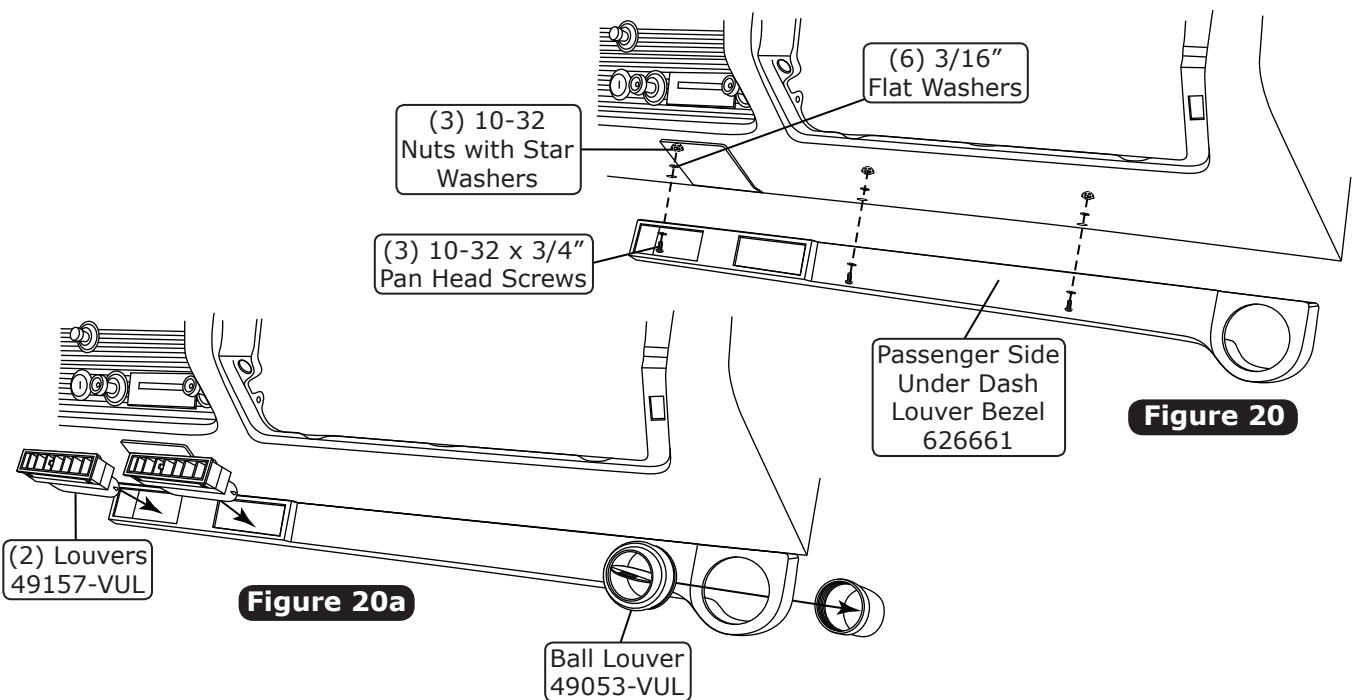

Figure 20
2. Secure the louver bezel under the dash using (3) 10-32 x 3/4" pan head screws, (6) 3/16" flat washers and (3) 10-32 nuts with star washers as shown in Figure 20, below.